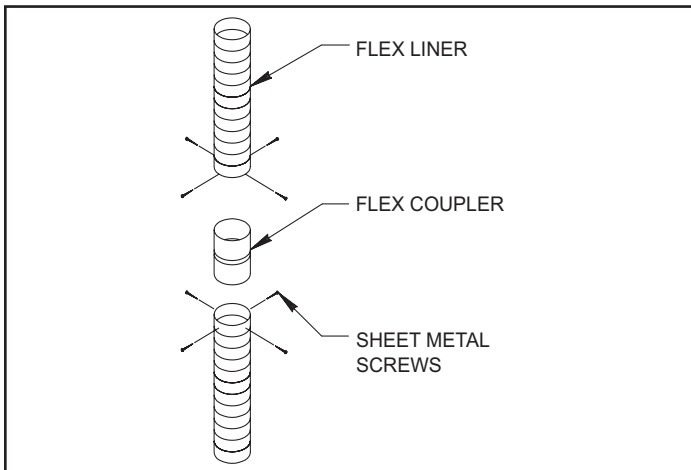

Figure 5.27
**Step 7** - If additional lengths of flex liner are needed to span the chimney height, use a flex coupler to connect the pieces of flex liner together. Connect the flex to the coupler by using four sheet metal screws for each side (Figure 5.27).